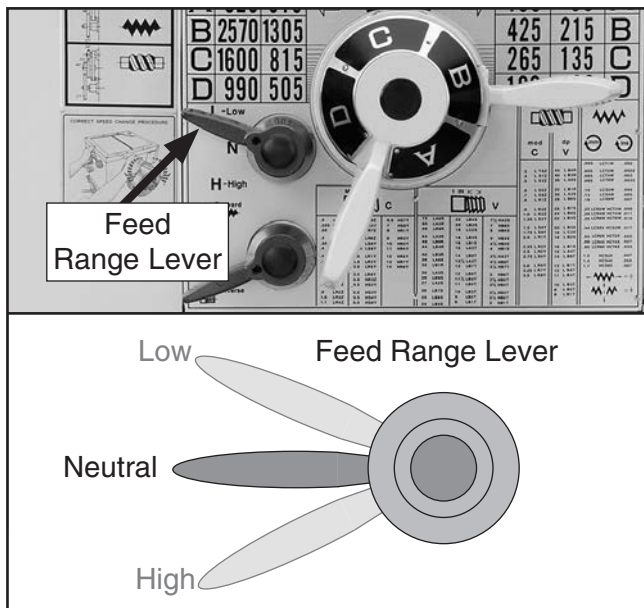

Figure 26. Feed range lever.
- Disengage the quick-change gearbox from the drive train by moving the feed range lever to the neutral (middle) position (see **Figure 26**).